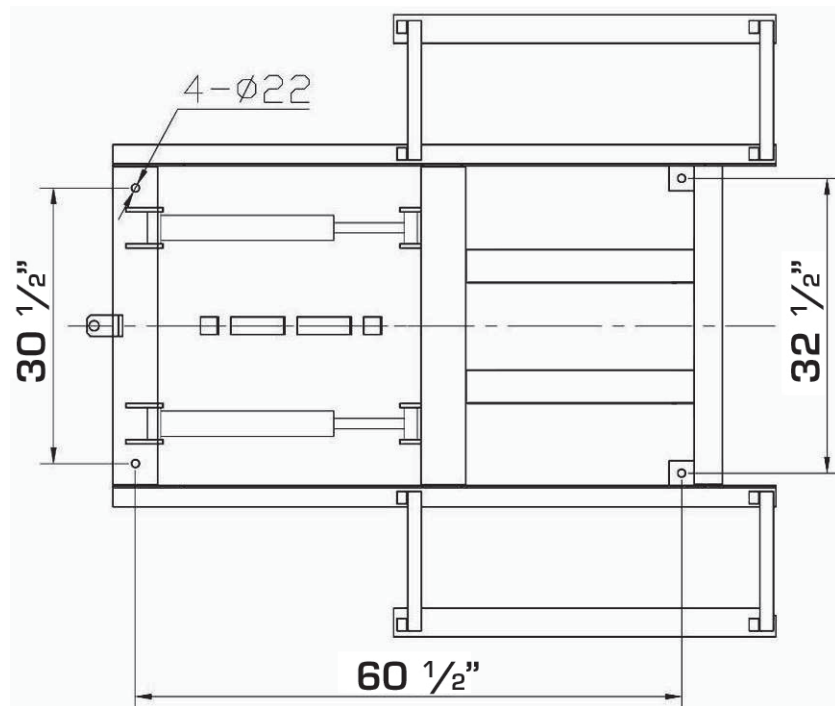

Fig. 18
6. There are four fixed holes in the machine, can fix the machine on ground by 3/4 X 4 3/4" anchor bolts (**See Fig. 18**).